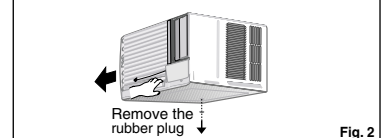

Fig. 2
1. Remove the rubber plug and slide the chassis out from the cabinet. (See Fig.2)
2. Pull the bottom window sash down behind the upper guide until it meets. (See Fig.2)